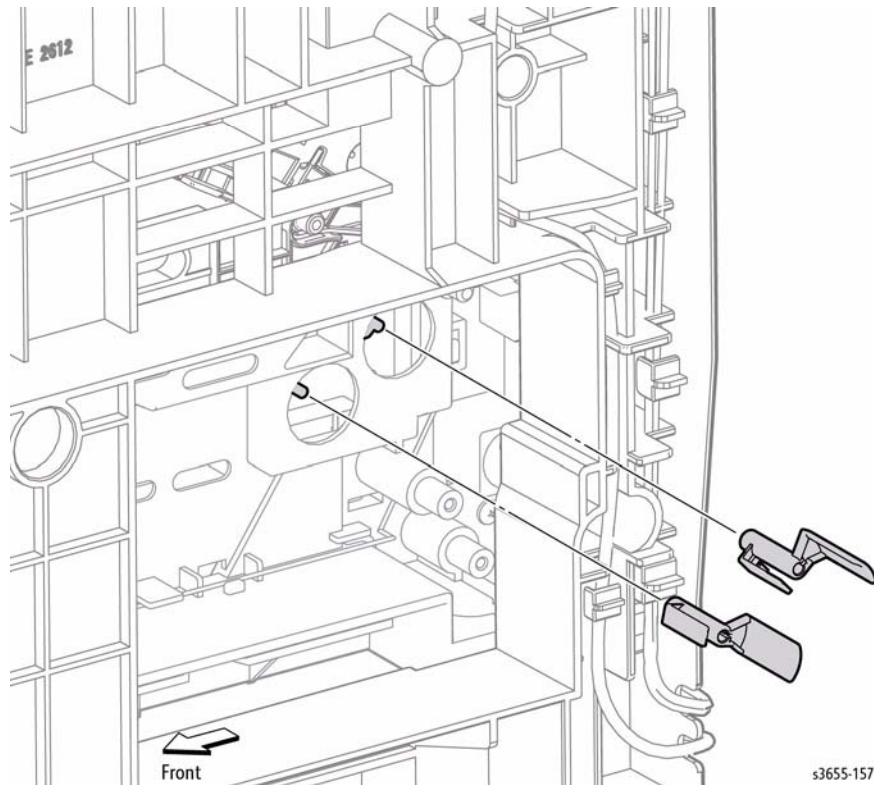

Figure 1 Remove the Sensor Shutters
6. Refer to Figure 1 to locate and release the hooks that secure the Sensor Shutters to the Transport Assembly.